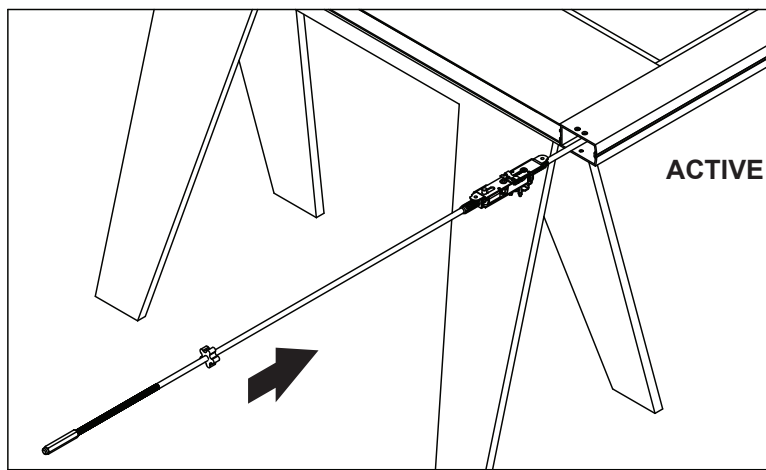

Fig. 9
1. Insert the panic device rod and case assembly into active stile (Fig. 9).